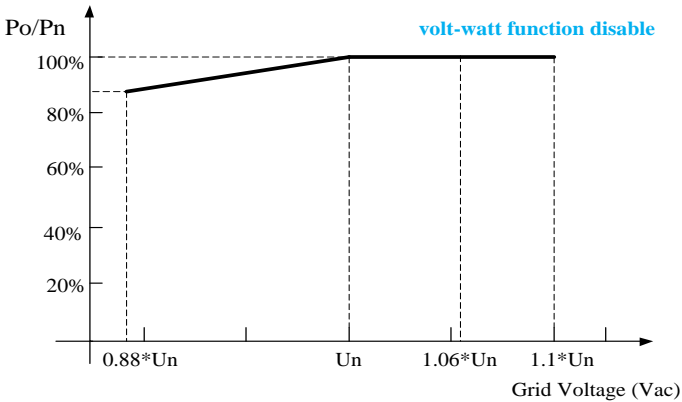

Figure 10-3-1 SCA36/50/60KTL Derating Curve of Grid Voltage
- 1) When the Volt-Watt function is disabled, and grid voltage is within 100%~110% ($U_n \sim 1.1*U_n$) of the Rated Output Voltage, the inverter output power (P_n) may reach 100%. When the grid voltage is lower than the Rated Output Voltage, the inverter will limit the AC Output Current and the output power (P_n) will begin to derate, as shown in Figure 10-3-1.